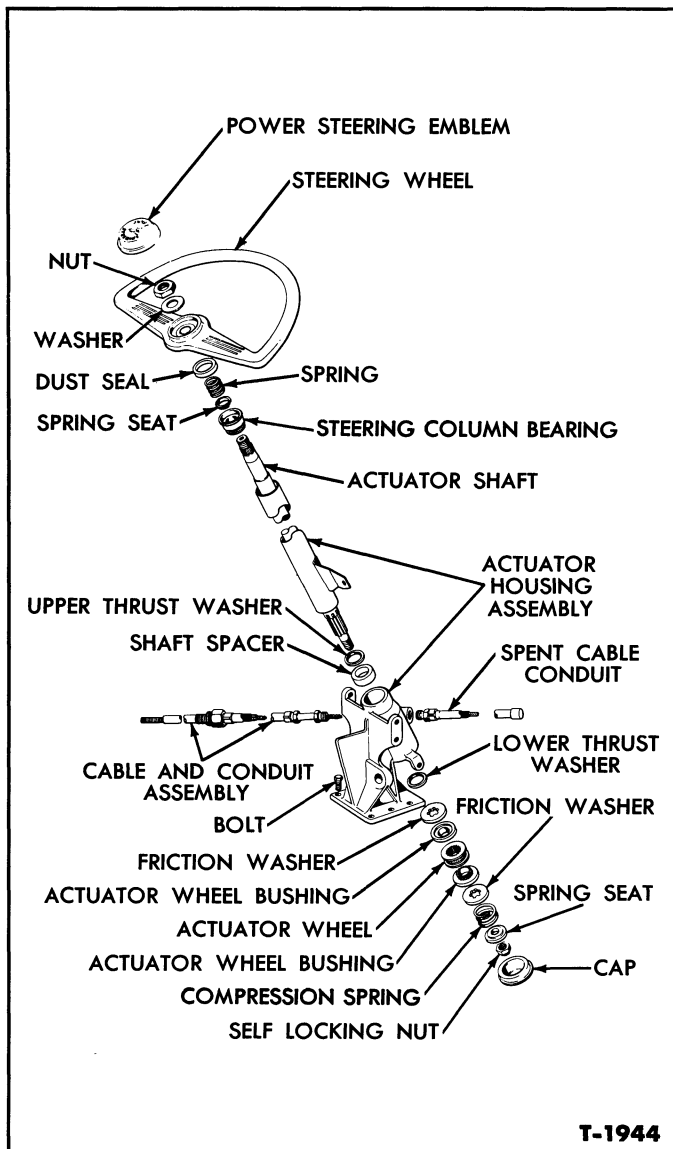

Figure 19—Actuator Assembly—Disassembled
5. Remove the following components, Figure 19, from the lower end of the steering shaft:
7. Install the actuator components, Figure 19, on the lower end of the shaft in the following order: